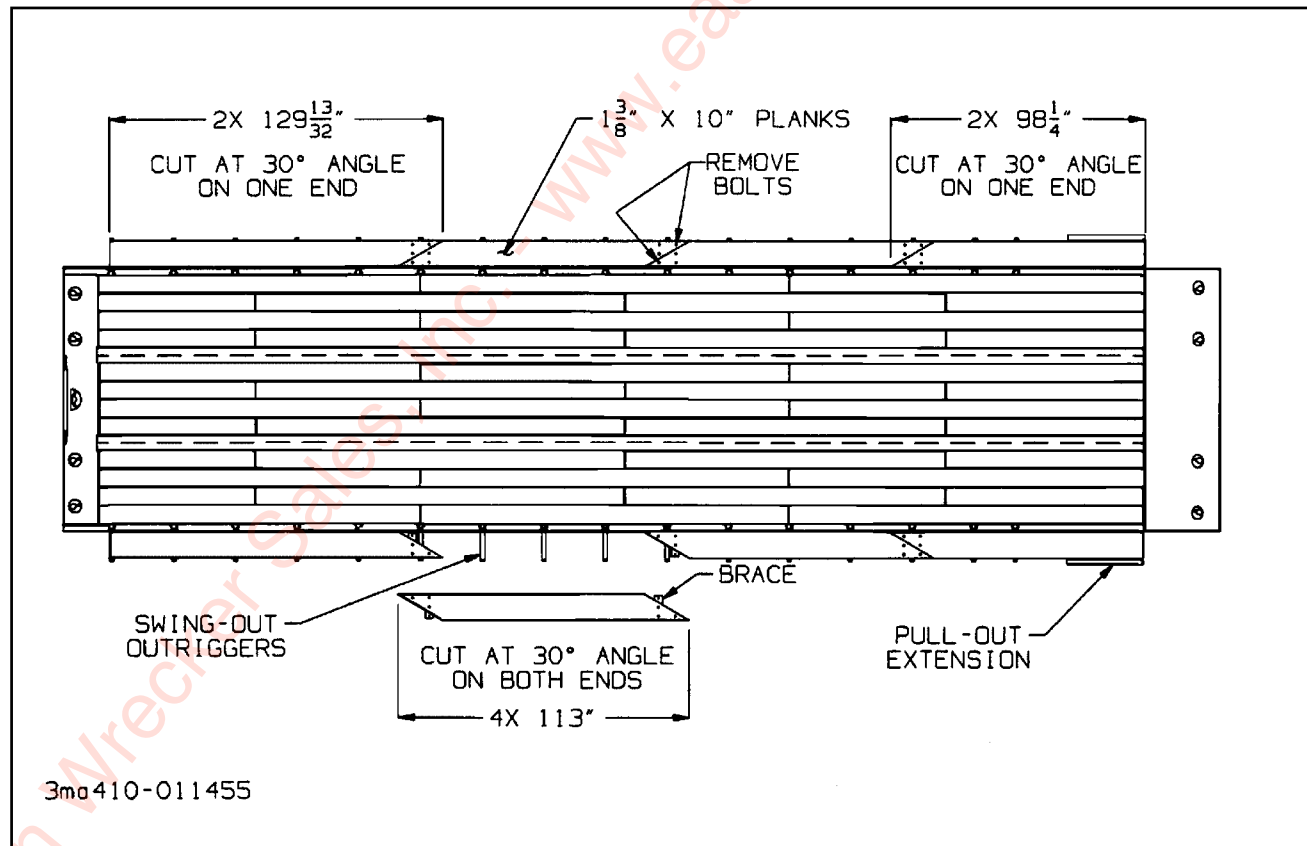

Figure 3-5 Outrigger Platform Extension
3-11 SWINGOUT OUTRIGGER PLATFORM EXTENSION SET-UP (OPTION)(See Figure 3-5)
- 3-11.6** Remove only two bolts for each joint as shown in Figure 3-5. Leave braces attached to boards for storage.